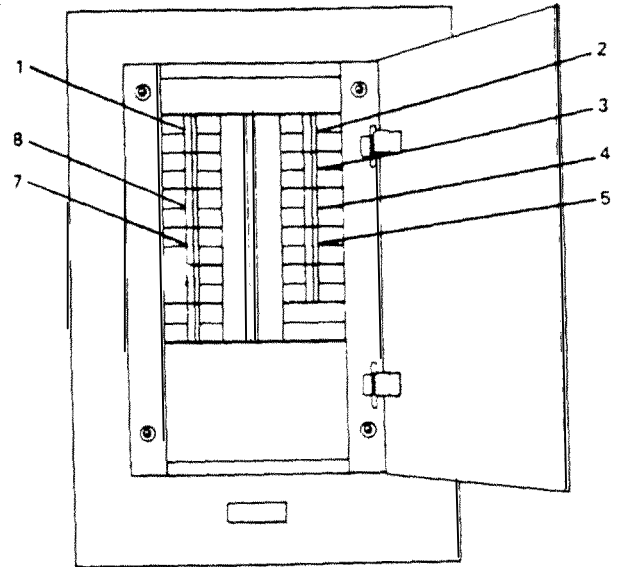

**Figure 2-144. 01, 02, and Main Deck Emergency Lighting Panel No. 1.**
(3) 01 level, 02 level, and main deck emergency lighting panel no. 1 (Figure 2-144). Set following circuit breakers to ON position.
- (a) MAIN DECK EMERGENCY LIGHTS (1).
- (b) 01 LEVEL EMERGENCY LIGHTS (2).
- (c) 02 LEVEL EMERGENCY LIGHTS (3).
- (d) CHILL/FREEZE BOX LIGHTS (5).
- (e) FREEZER ALARM (6).
- (f) PILOTHOUSE ALARM SWBD (4).